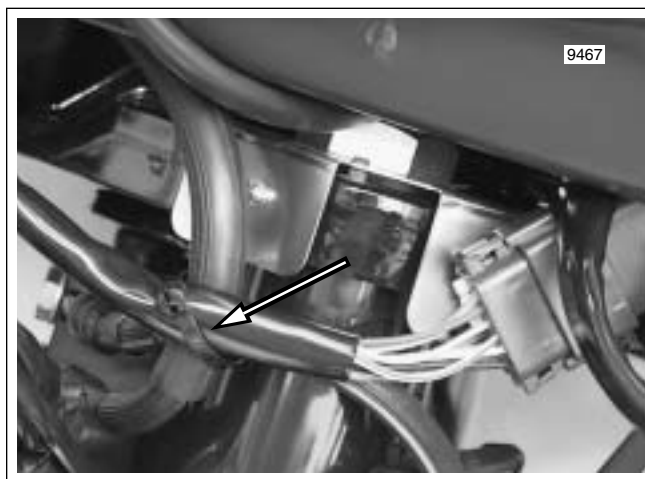

Figure 4. Cut Cable Strap to Release Conduit From Brake Hoses at Front of Steering Head
6. At front of steering head, carefully cut cable strap to release brake hoses from right handlebar switch control conduit. See Figure 4.
10. At front of steering head, install **new** cable strap capturing brake hoses and right handlebar switch control conduit. Cut any excess cable strap material. See Figure 4.